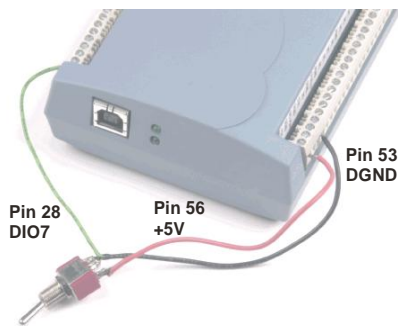
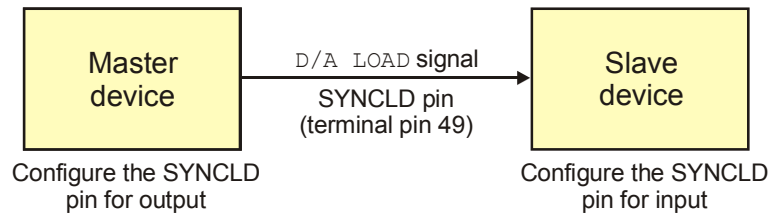

Figure 6. DIO7 detecting the state of a switch
Figure 8. Synchronizing the update of multiple devices
When you configure the digital bits for input, you can use the digital I/O terminals to detect the state of any TTL-level input. Refer to the switch shown in Figure 6 and the schematic shown in Figure 8. When the switch is set to the +5 V USER input, DIO7 reads *TRUE* (1). If you move the switch to DGND, DIO7 reads *FALSE* (0).